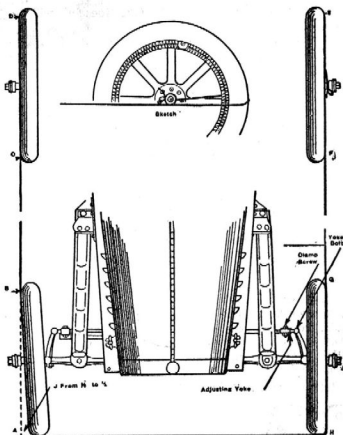

Fig. 34—Front wheel alignment.
2. Pass the cord between the SPOKE, toward the REAR and around the tire, across the face of the wheel at the height of the HUB. (Sketch 1, Fig. 34.)
3. Pass the cord completely around the FRONT of the car across the faces of each of the WHEELS at the height of the HUB, and tie the end around the tire at the point (D), (Fig. 34).